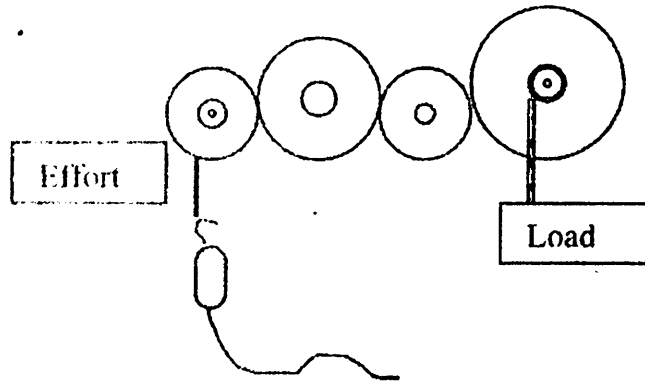

Figure 4.2.2 Gear train.
1. When your gear train is built and set up with pulleys, cord and hooks, attach 100 g weight on load gear (large) and a force sensor or balance on effort gear (small). (See Figure 4.2.2).